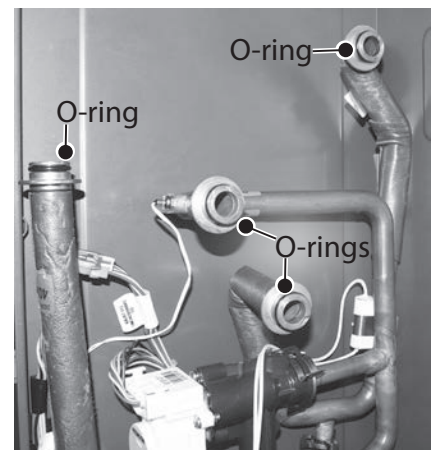

Figure 163 - Replacing HEX O-rings
62 Locate the four new O-rings provided in the kit. Remove the old O-rings from inlet and outlet water connections for the HEX assembly and replace with new O-rings. See Figure 163.
- 65** Locate the four new O-rings provided in the kit. Remove the old O-rings from inlet and outlet water connections for the HEX assembly and replace with new O-rings. See Figure 163.